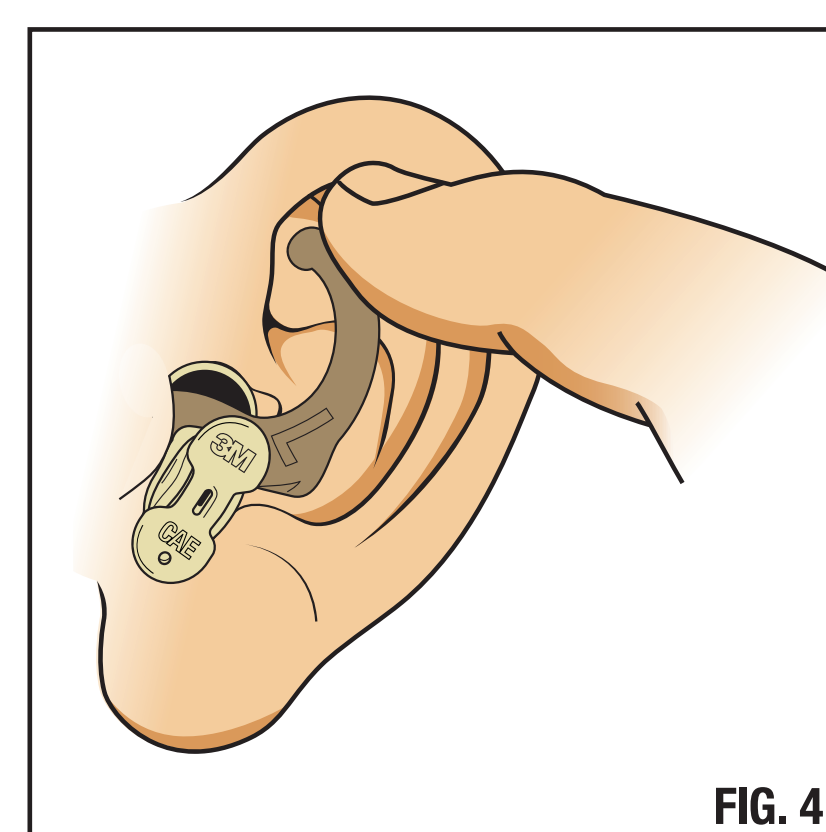

FIG. 4
**Step 3.** Use index finger to push and bend the retainer into the concha to help ensure the earplug is seated securely. (*see Fig. 4*)